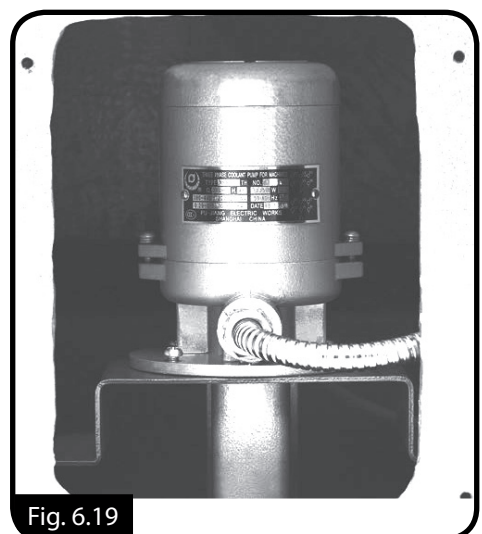

Fig. 6.19
1. Remove the access cover at the rear of the lathe (Fig. 6.19).